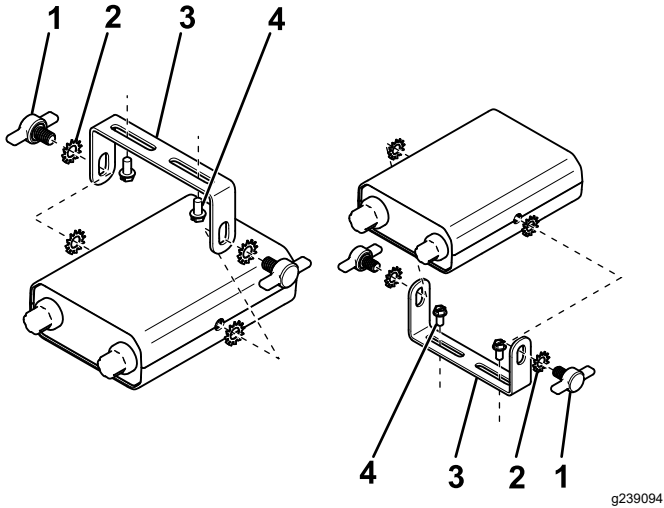

Figure 14
1. Attach the mounting bracket to the vehicle using 2 sheet-metal screws (Figure 14).
2. Attach the controller to the mounting bracket using 4 star washers and 2 thumb screws (Figure 14).